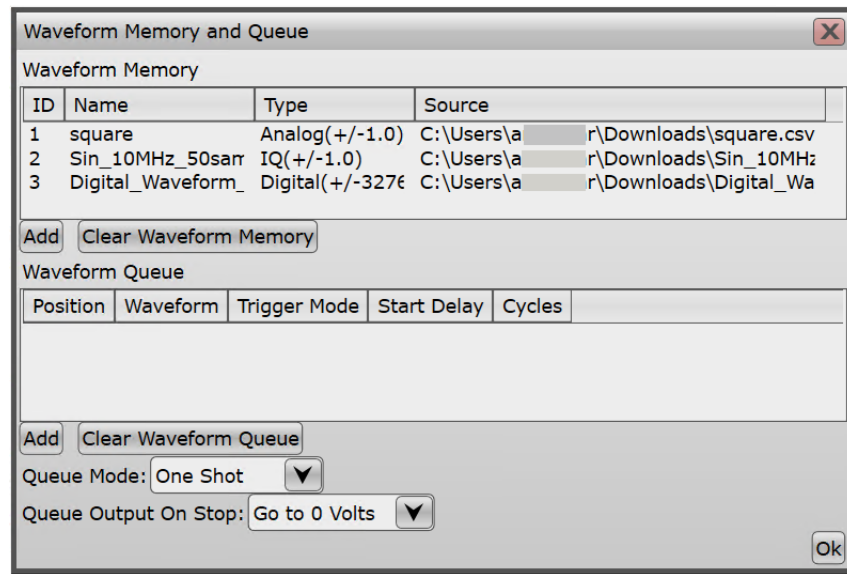

Figure 81 Modified Waveform Memory and Queue dialog box
- e To load more files into the waveform memory, repeat step 2 and the corresponding sub-steps. The entries are displayed in the manner shown in Figure 81.
Notice the various columns in the **Waveform Memory** area shown in Figure 81,